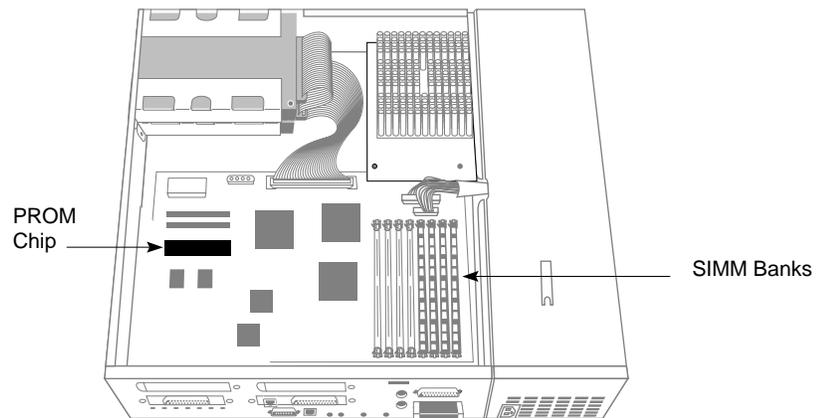

Figure 2-12 Locating the PROM Chip
1. Locate the PROM chip. The PROM chip is located on the opposite side of the system board from the SIMM banks, as shown in Figure 2-12.